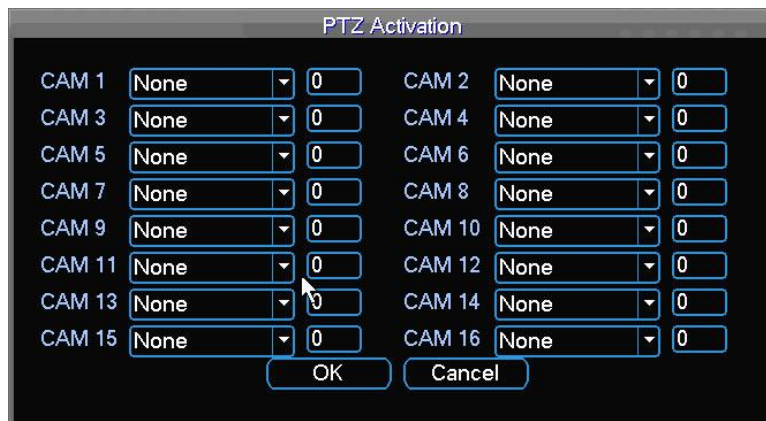

Figure 4-18
- PTZ activation: Here you can set PTZ movement when alarm occurs. Such as go to preset, tour & pattern when there is an alarm. Click “select” button, you can see an interface is shown as in _Figure 4-18.